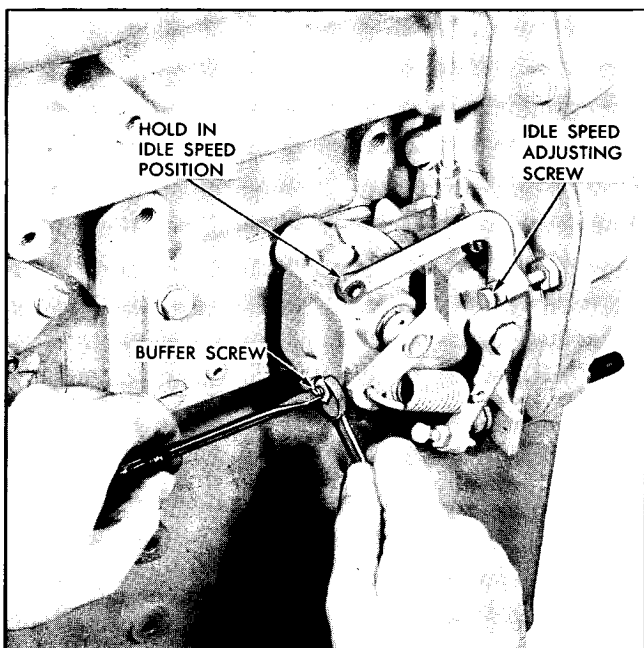

Fig. 4 - Adjusting Buffer Screw
1. Advance governor rocker shaft lever to the maximum fuel position and retain. The rocker shaft lever can be held in the FULL FUEL position after backing out the buffer screw, see Fig. 4, by advancing the governor speed control lever to its maximum speed position.
1. Loosen buffer screw lock nut and, with the engine operating at idle speed, turn buffer screw, Fig. 4, inward until engine roll is eliminated.